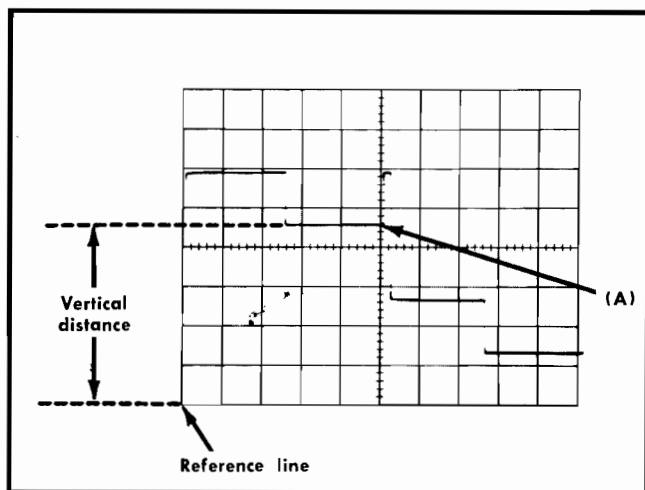

Fig. 2-3. Measuring instantaneous DC voltage with respect to a reference voltage.
4. Measure the distance in divisions between the reference line and the point on the waveform at which the DC level is to be measured. For example, in Fig. 2-3 the measurement is made between the reference line and point A.